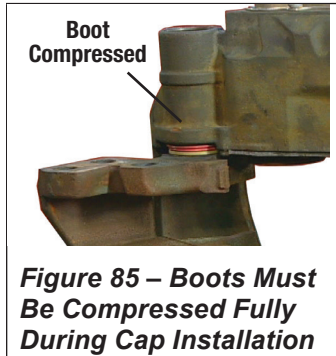

Figure 85 – Boots Must Be Compressed Fully During Cap Installation
- 5.6.38 See Figure 85. Place the caliper/carrier assembly on a bench so that the inner boots are fully compressed, check that the bores are clean and dry (e.g. free from lubrication).